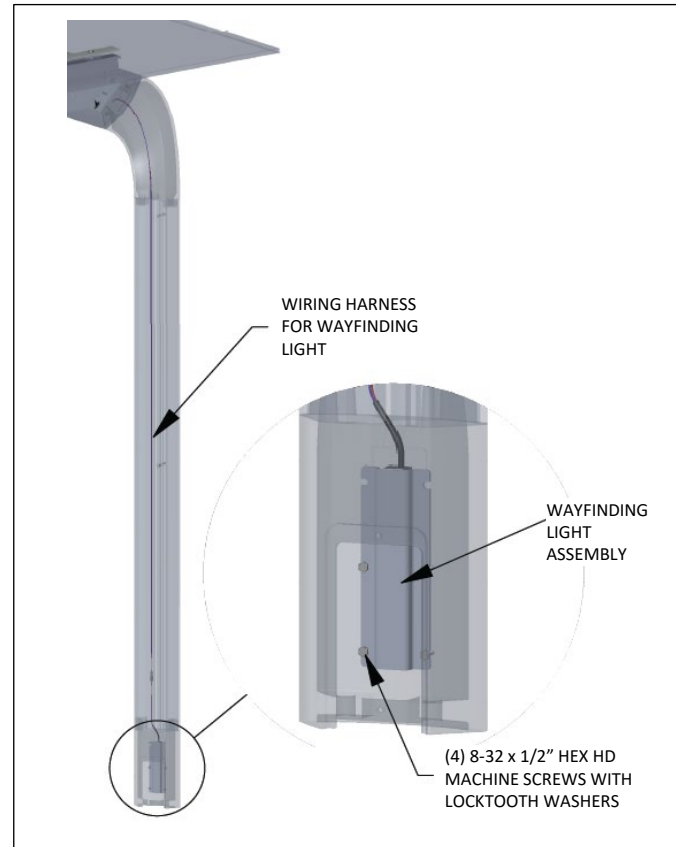

Fig. F11 – Install wayfinding lights
8. Wayfinding lights: Run wiring harness up through front vertical post. On the front left side of the unit, remove the access cover on the front horizontal beam. Make connection from the wiring harness to the quick disconnect located in the beam. Secure LED to front vertical post, using (4) 8-32 x 1/2" hex head machine screws with external tooth lock washer, located in hardware pack #62810, see Fig. F11. Before final tightening of screws, ensure only the lens from the light is showing through the front opening. Repeat for opposite side. Install cover plates, using (2) 1/4-20 x 1/2" socket head cap screws, located in hardware pack #62607, see Fig. F12. Make connection to pre-installed wiring harness labeled "wayfinding light".